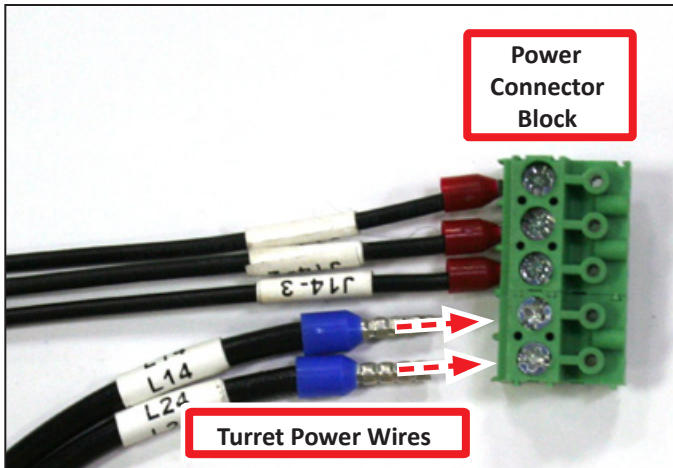

Figure 18
6. Locate two loose Turret Power Wires marked **L14** and **L24** shown in **Figure 18**.